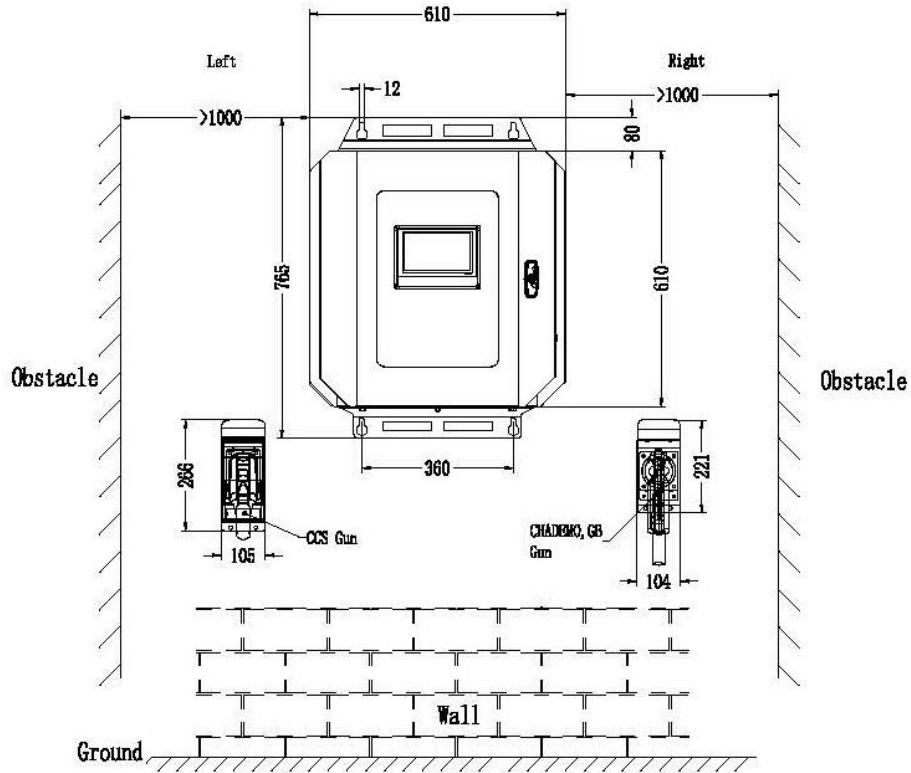

Figure 2: Drilling and Conduits layout
- The position of cable entrance is indicated by the red line in figure 2 below